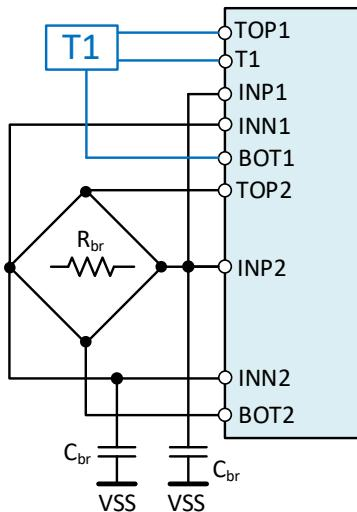

Figure 40. Dual Speed Resistive Bridge Input Configuration
- Dual Speed AFE with AOUT: both AFEs are used, one sensor bridge is connected to both front ends. AFE1 is setup for fast conversion, allowing fast response at lower accuracy. AFE2 is setup for slow conversion, generating a slower response at higher/typical accuracy, see Figure 40 for the needed connections of the bridge to the device. Description of operation of dual speed with the EVK is provided in section 5.3.1.6. Refer to the *ZSSC3281 Datasheet* document for a detailed description of this AFE operation mode.
For operating the Dual Speed mode, the EVK can be used with a specific setup of the SRB3 board: remove all jumpers from J6 and connect J3-1 with J6-4, and J3-4 with J6-2. With this setup the second bridge on the SRB is connected as in Figure 40 (temperature sensor can be external, or internal PTAT).